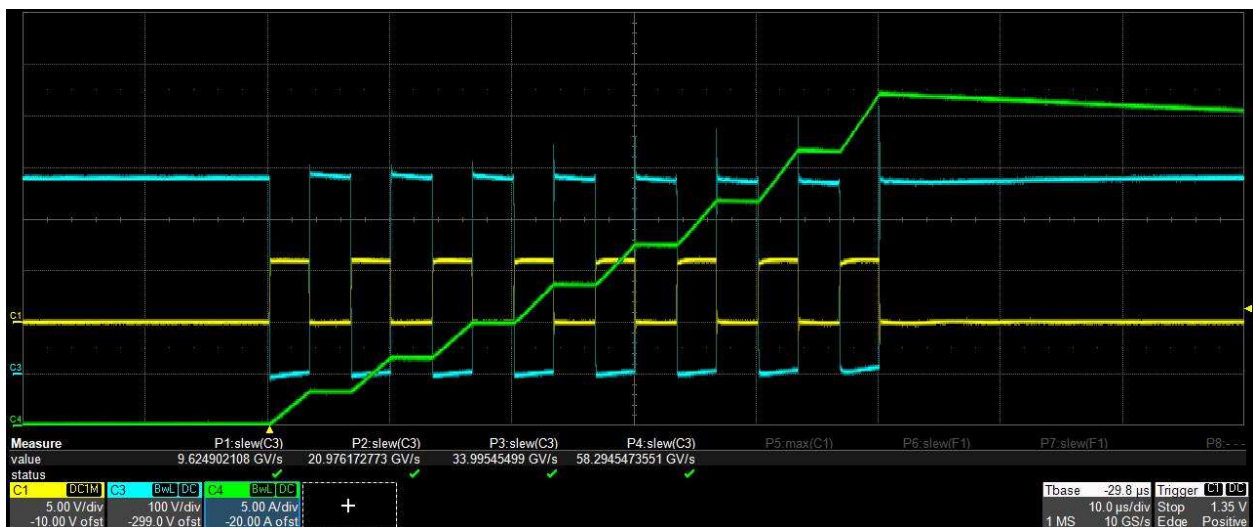

Figure 11 - Clamped Inductive Switching Waveforms
The PWM sequence illustrated above represents a burst of three pulses, but this logic can be extended to any number of pulses (N), provided that the safe operating area (SOA) limits of the active devices and the saturation current of the inductor are not exceeded. Example waveforms for this test are shown below in Figure 11.